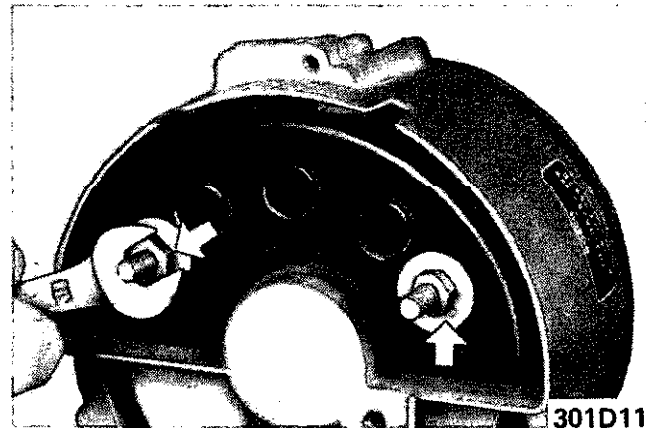

Figure 1D-11 Removing Positive Diode Support
7. Disconnect brush connector from negative diode support. See Figure 1D-12.